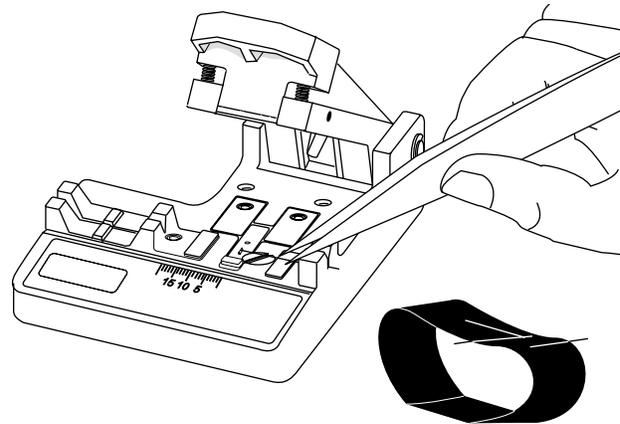

Figure 5
4.9 Remove the cut end of the fiber with tweezers and put it on the loop of tape (Figure 5).
4.15 Remove the cut end of the fiber with tweezers and put it on the loop of tape (see Figure 5).